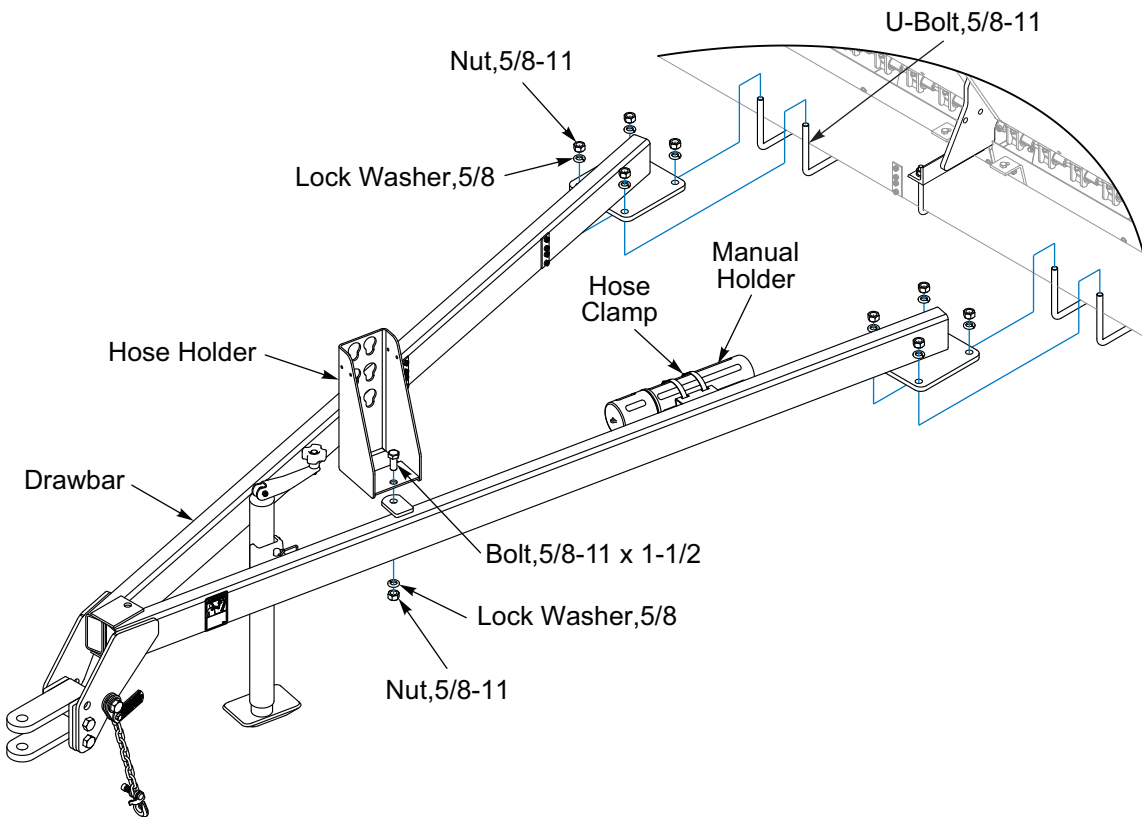

Figure 2-10: Drawbar Installation (Before 08/2025)
2. Center Drawbar in relationship with the Seed Box Center Bracket. Attach Drawbar to Seeder Frame Tube with 5/8-11 U-Bolts, Flat Washers and Locknuts. **See Figure 2-10.**
2. Center Drawbar in relationship with the Seed Box Center Bracket. Attach Drawbar to Seeder Frame Tube with 5/8-11 U-Bolts, Lock Washers and Nuts. **See Figure 2-10.**